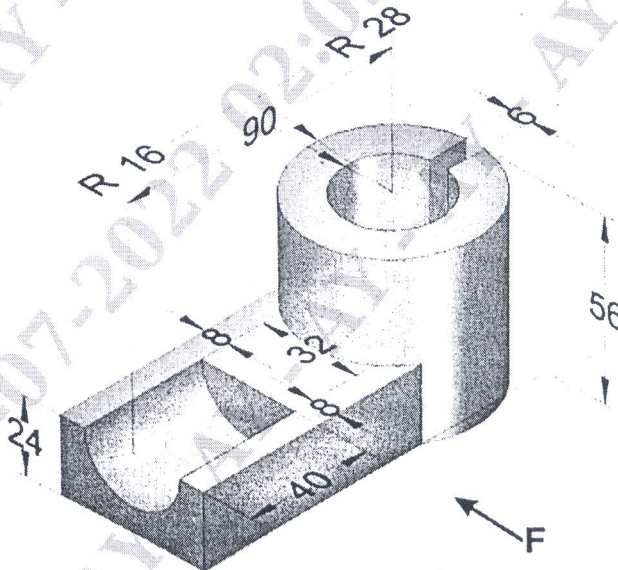

Figure 1.
2. Draw the orthographic projection of Figure 1 with all three views. (25 Marks)